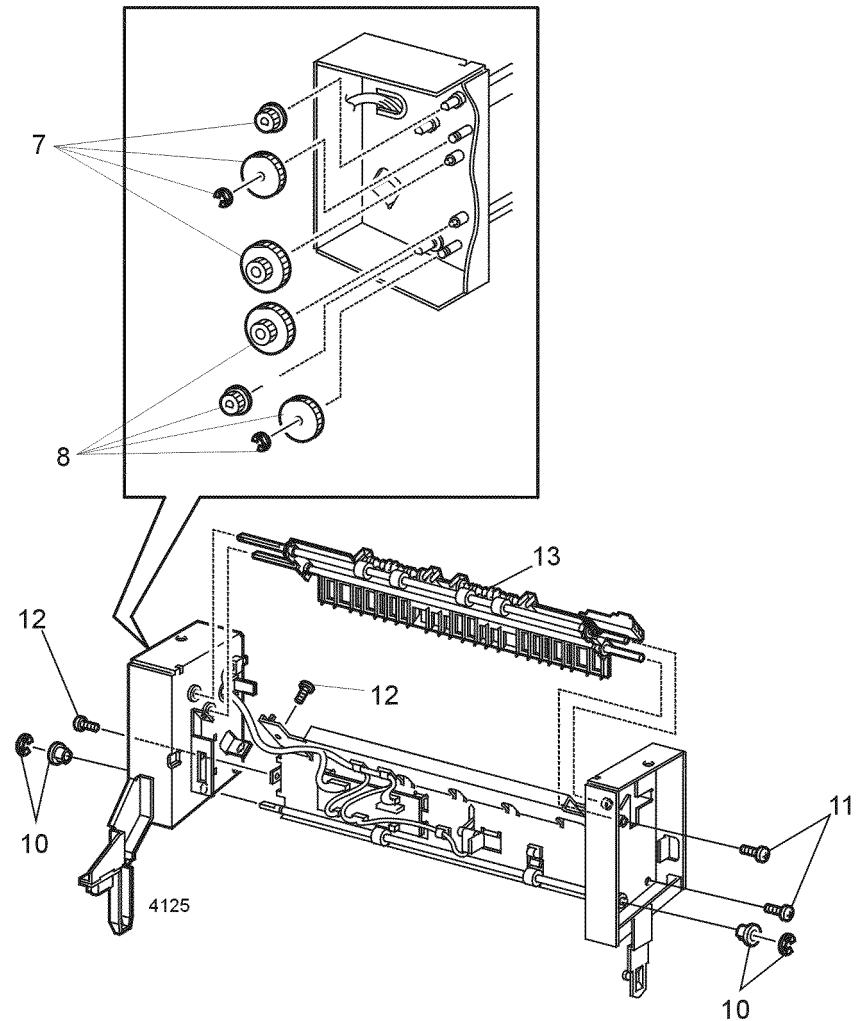

Figure 1 Offset Assembly
12. Remove the two screws that secure the Left Frame Assembly (Figure 1). Remove the Left frame.
13. Remove the Offset Assembly (Figure 1).